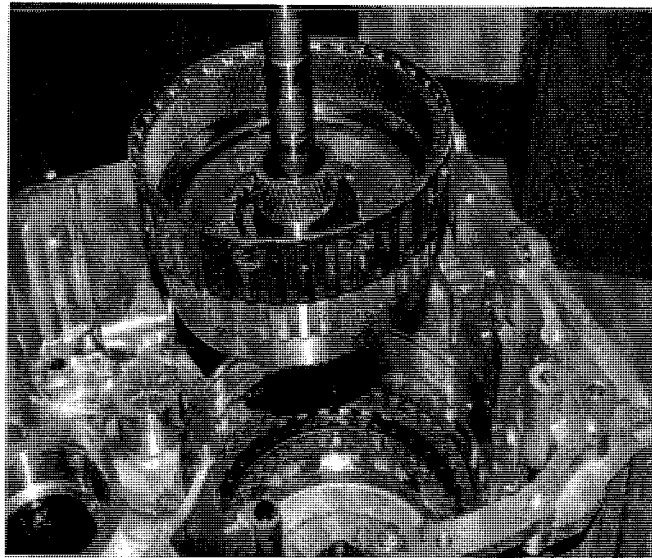

Fig. 9 Gear Train Assembly
25. Remove the gear train assembly (annulus gear 3, B-clutch discs and hub, and input shaft assembly) by lifting upwards on the input shaft. See (Fig. 9). Do not lift the assembly by the hub as this will disengage the hub assembly from the B-Clutch clutch pack.